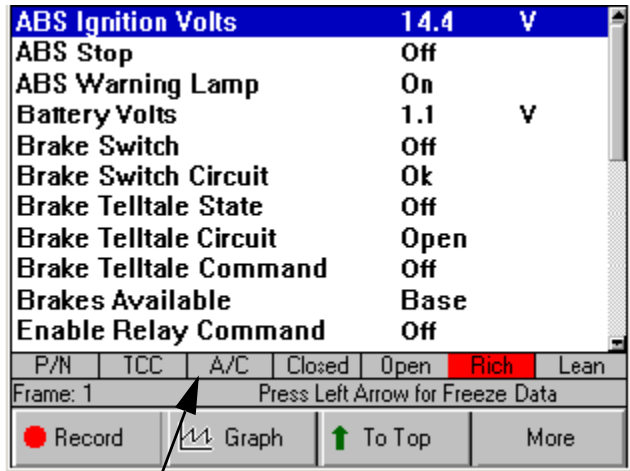

Figure 7.22: Datastream Screen - LED Bar Displayed
- 3 Press the **ENTER** key. (See Figure 7.22 on page 48.)